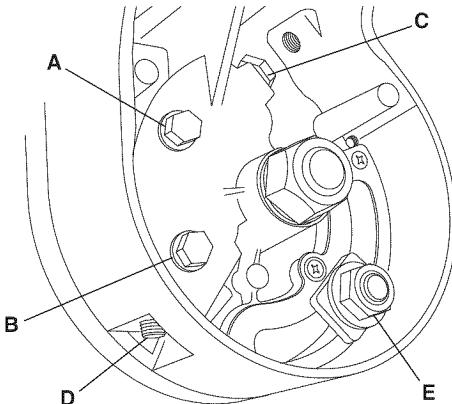

Figure 6. Calibrating Blade at 0 degrees
2. Loosen bolt heads "A" and "B" with 10 mm open-end wrench at least one full turn (Figure 6).
3. Place 4 mm Allen wrench bit onto multi purpose tool and into setscrew "D" (Figure 6).
2. Place 17-mm open-end flat wrench on bolt head "E" (Figure 6).